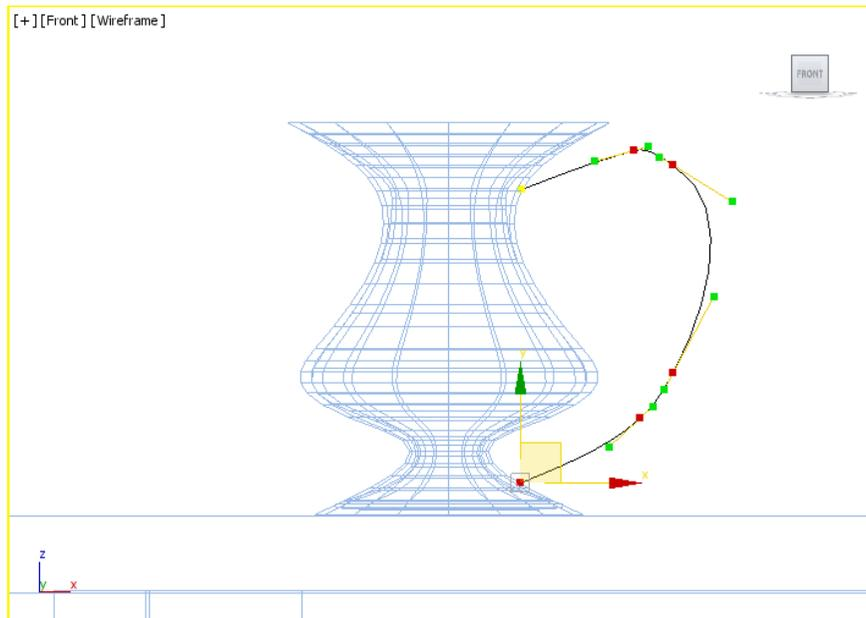

Figure 5-18 The Handle modified by moving the bezier handles
- Invoke the **Select and Move** tool from the **Main Toolbar** and right-click on the second vertex. Choose **Bezier** from the quad menu and then move *Handle* to get the desired curve. Similarly, modify the rest of the vertices of *Handle* as needed to form a curved shape, as shown in Figure 5-18.